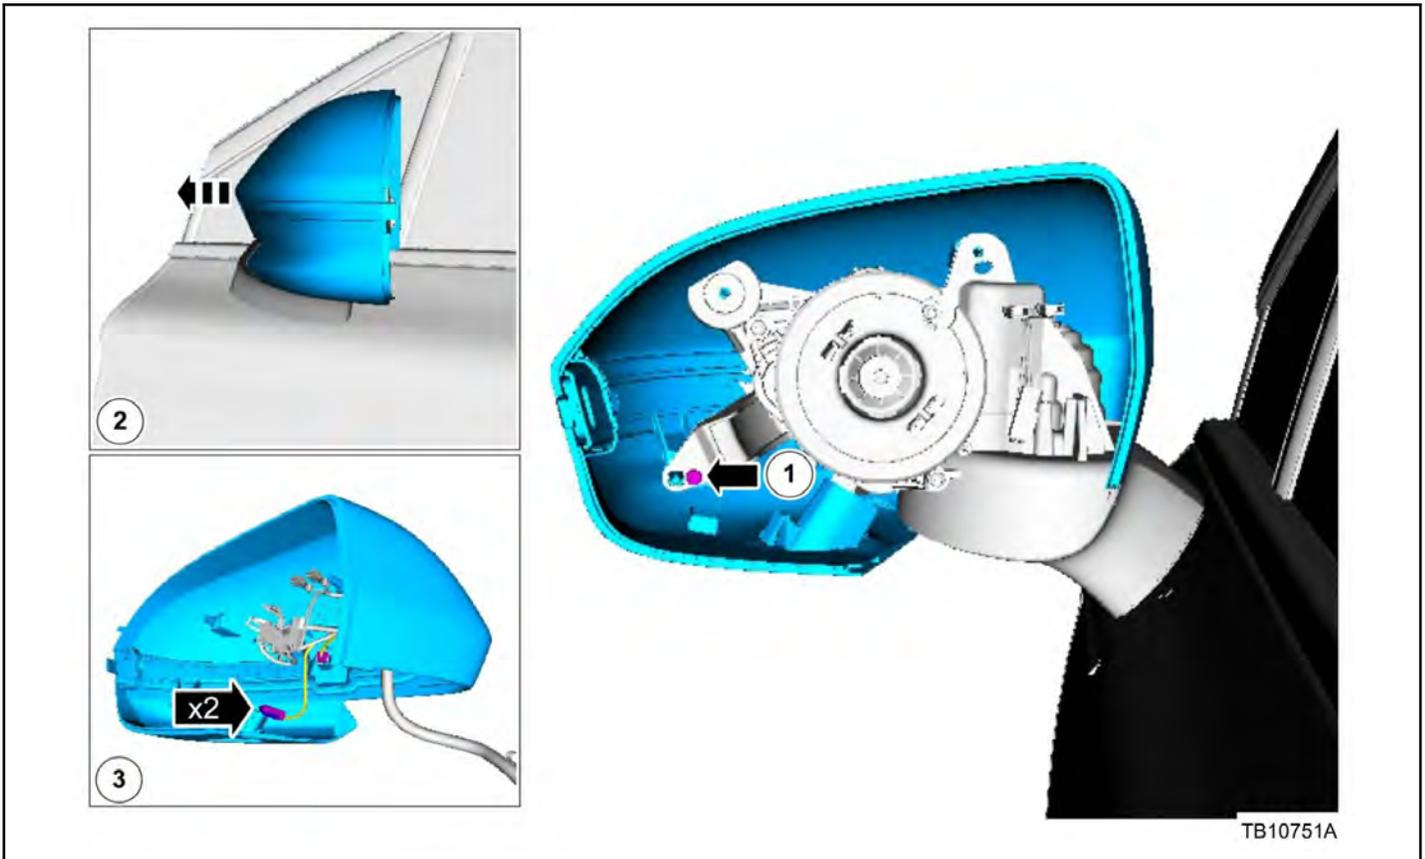

Figure 4 - Article 15-0159
4. Remove the screw and position the mirror cover aside. (Figure 4)